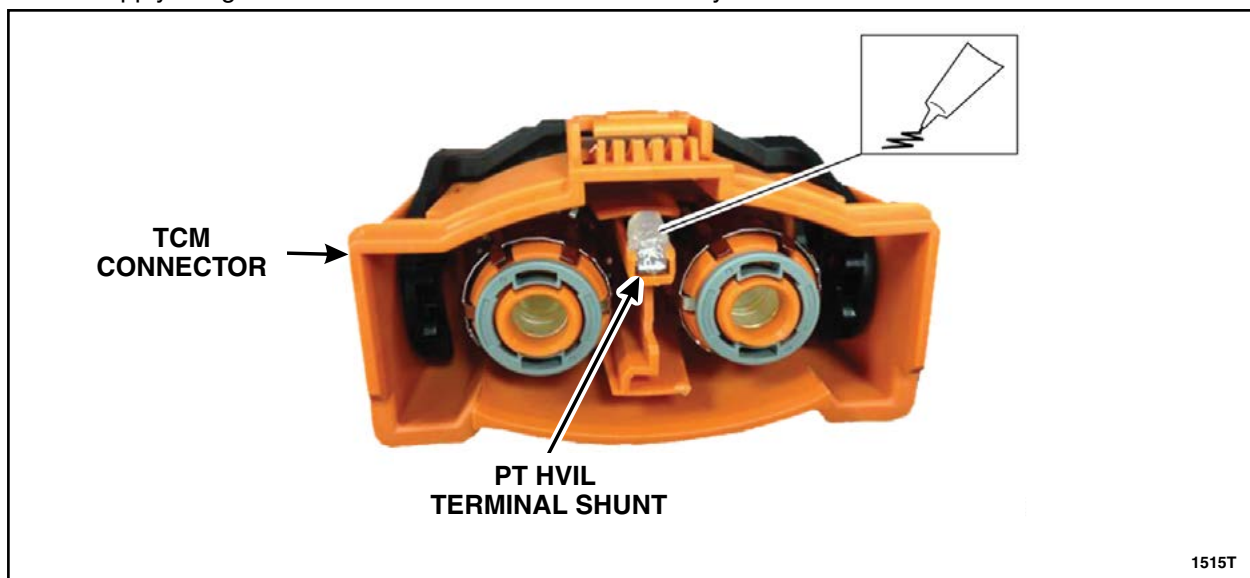

FIGURE 13
4. Using a lint free cloth, lightly wipe all surfaces of the Powertrain High Voltage Inter-Lock (PT HVIL) Terminal Shunt. Apply Motorcraft Electrical Grease XG-12 to the (PT HVIL) Terminal Shunt. See Figure 13.